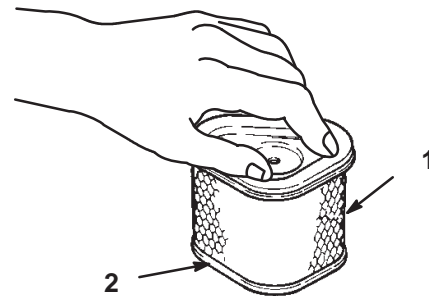

Figure 29
1. Inspect the element for tears, an oily film, and damage to the rubber seal (Fig. 29).